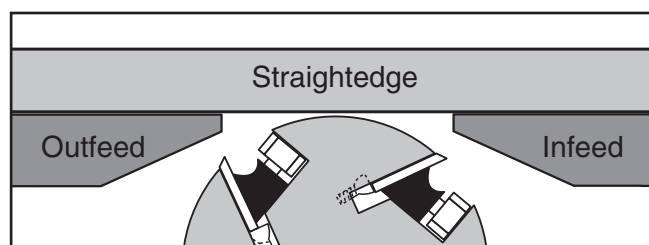

Figure 78. Checking table parallelism.
4. Rotate cutterhead until knife/insert is no longer at TDC, extend straightedge over both tables, raise infeed table until it contacts straightedge (see **Figure 78**), then lock infeed table.